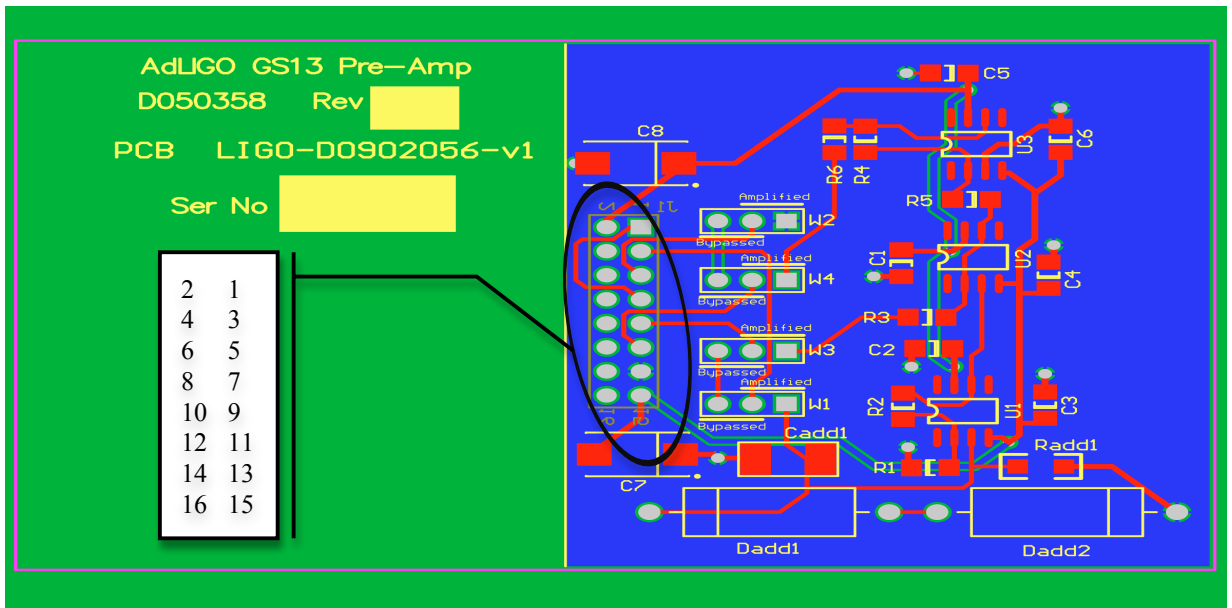

Figure 1: Preamp board schematic with pin numbering.
- 3.2 Before connecting the power to the board, set power supplies to +/- 15 Volts, and then turn them off. Connect the power supply Positive lead to J1 Pin2, GND to J1 Pin13, and Negative to J1 Pin15 as shown in Figure 1.